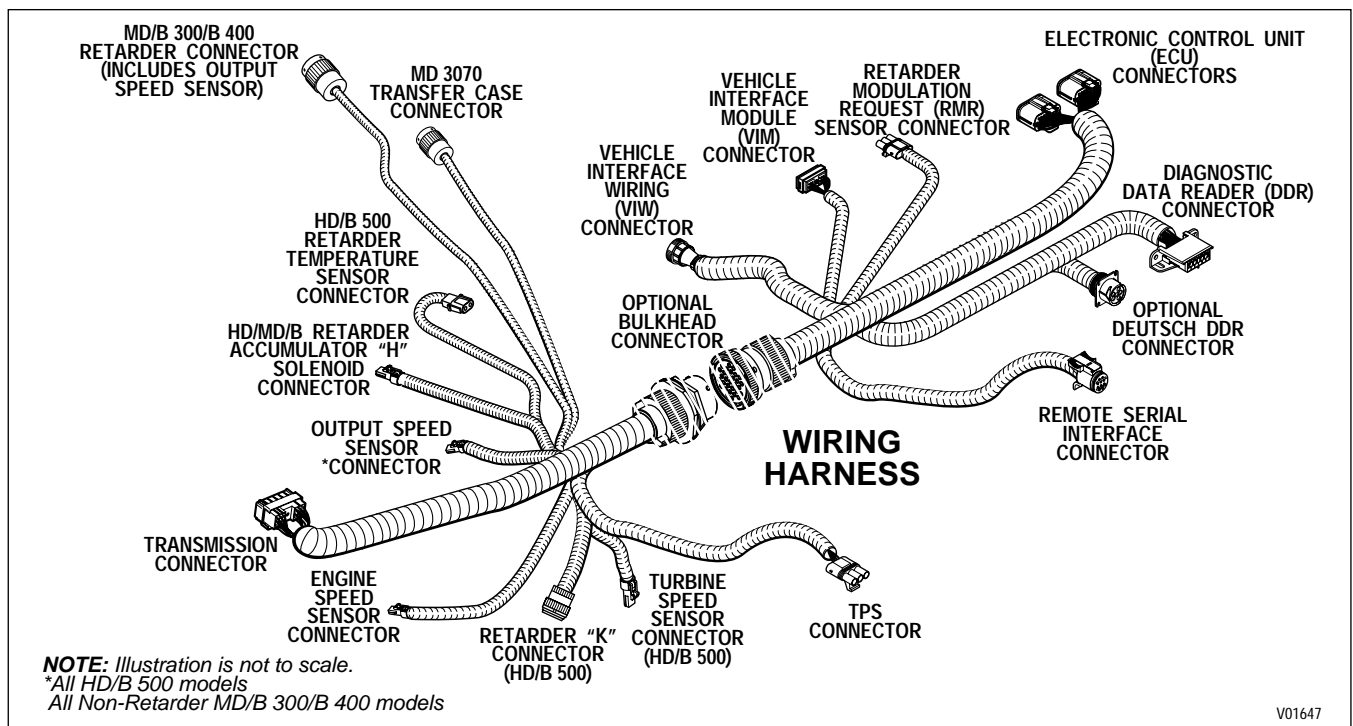

Figure 1-10. WTEC II External Wiring Harness (Units Produced Before 9/94)
A. External Wiring Harness (Figures 1-10 and 1-11)